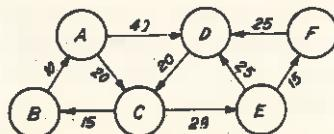

Fig. 4.17. Modified sequence diagram.
Step 3. Trial and error method can be used in order to modify the sequence diagram of step 2 and a comparatively better sequence diagram is drawn in Fig. 4.17. This has been obtained by placing those departments close to each other which involve movements of larger amounts of materials.